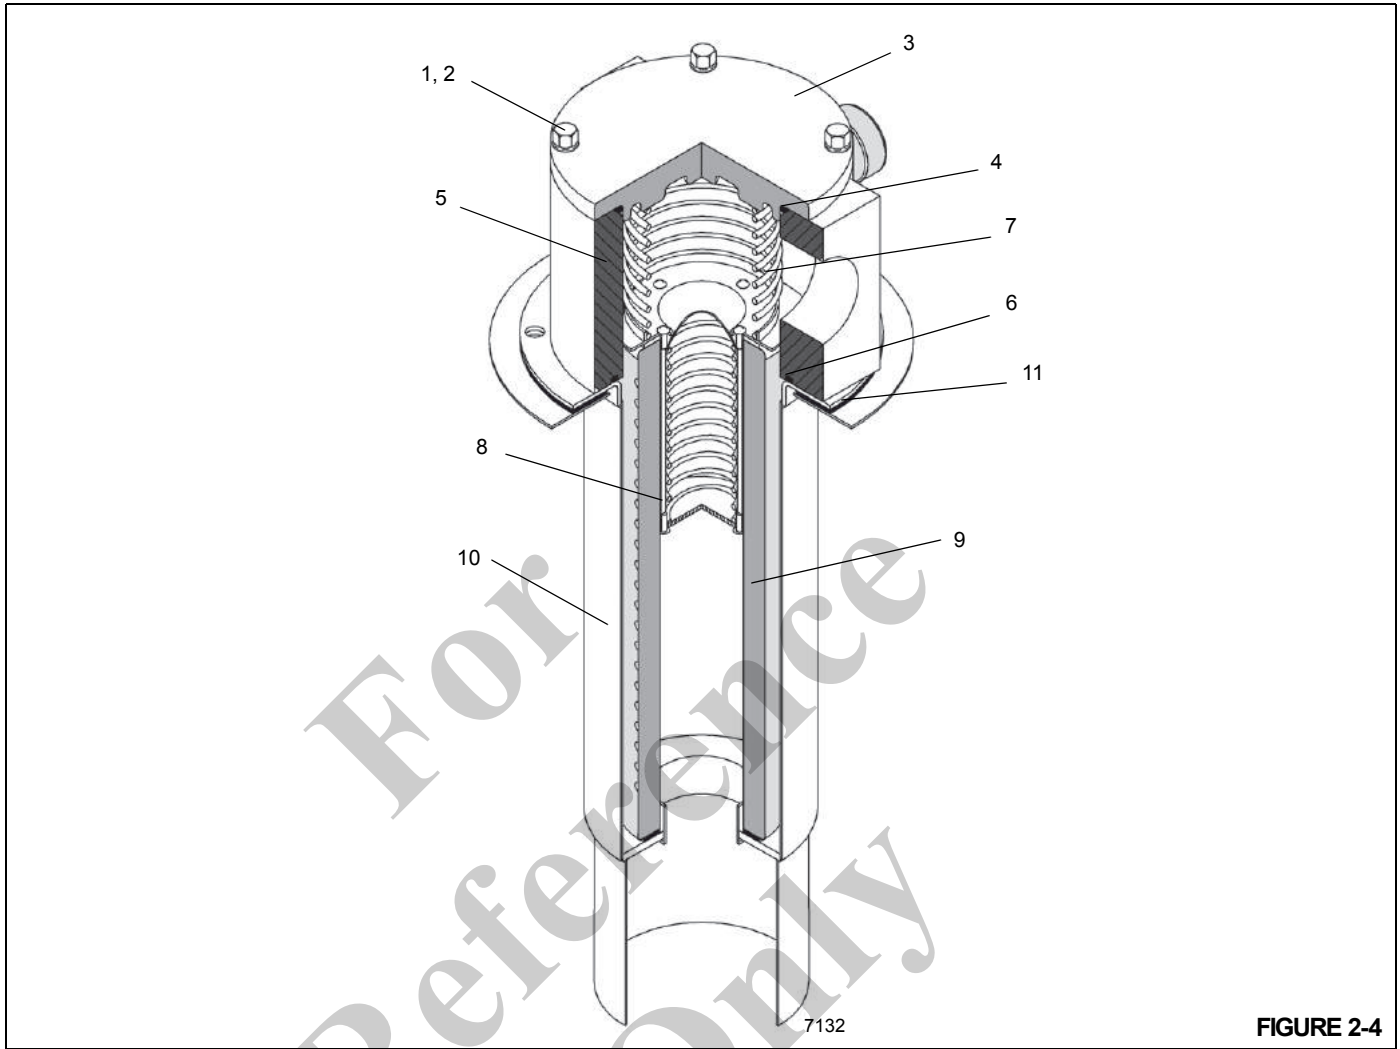

FIGURE 2-4
2. Wipe any dirt from the filter head and cap Figure 2-4.